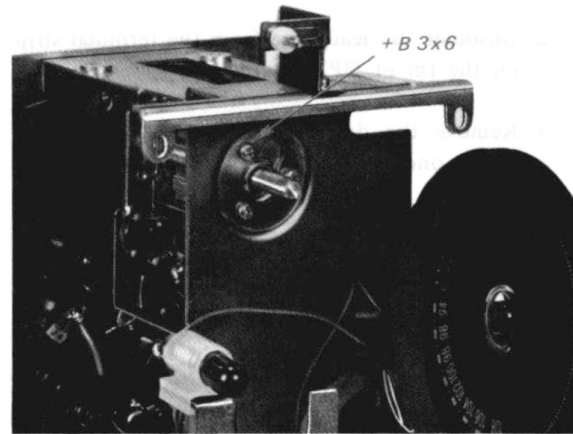

Fig. 2-8. Fm front-end removal
5. Remove the drum while unhooking the dial cord from the pulley, then stick the drum to the chassis with cellophane tape as shown in Fig. 2-8.
6. Remove the three screws (+B3x6), see Fig. 2-8, securing the variable capacitor frame to the chassis, and then unsolder the power-supply lead wire. Now the front-end is free.